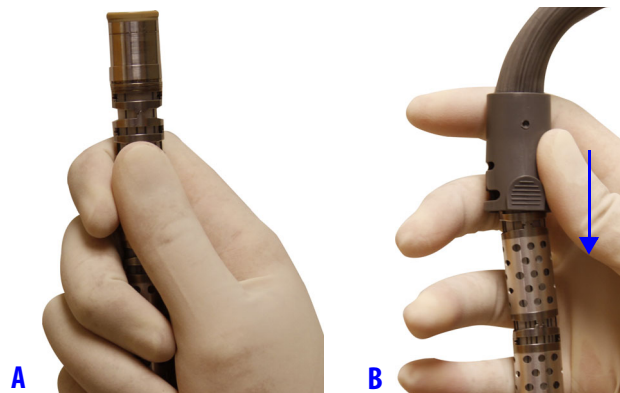

Figure 2.3 Straighten the distal end of the camera (A) and slide the sheath onto the shaft (B)
2. Straighten the distal end of the camera shaft (Figure 2.3 A). Slide the connector end of the sheath onto the shaft and slide the sheath down the shaft (Figure 2.3 B).